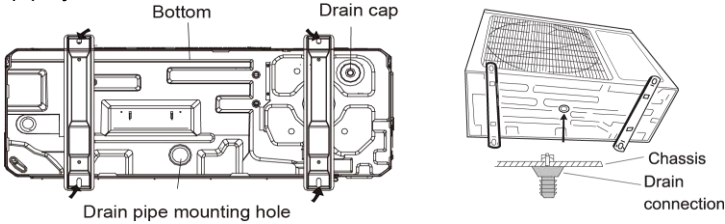

Fig. 4.7
4.2.2 Condensate Drainage of the Outdoor Unit (Only for the heat pump unit) (Fig. 4.7)